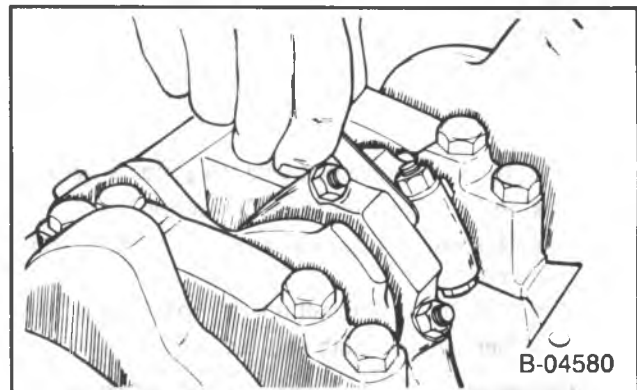

Figure 28 — Checking Connecting Rod Side Clearance
- Connecting rod side clearance. Use a feeler gage between the connecting rod and crankshaft (figure 28). The correct clearance is 0.17-0.63 mm.